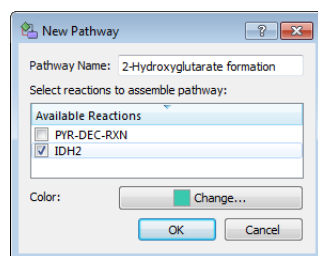
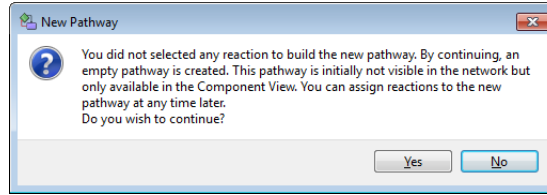

Figure 99 New Pathway dialog box
Figure 100 New Pathway created without a reaction notice
- Type 2-Hydroxyglutarate formation for the **Name** in the **New Pathway** dialog box (Figure 99).
If you click **OK** in the **New Pathway** dialog box (Figure 99 on page 95), but did not select a reaction to assign to the new pathway, a notice is displayed. You can click **Yes** to create an empty pathway or Click **No** to assign a reaction to the new pathway (Figure 100).